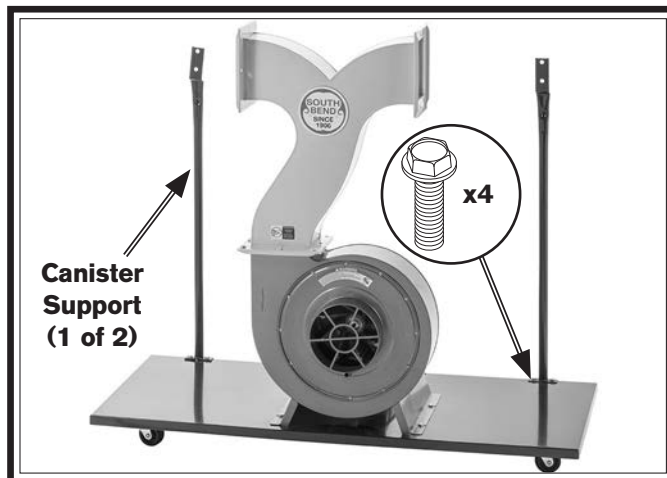

Figure 17. SB1101 canister support.
10. **SB1101 Only:** Repeat **Step 9** with second canister support (see **Figure 17**).